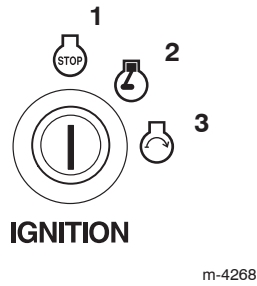

Figure 14
6. Turn the ignition key to Start to energize the starter. When the engine starts, release the key (Fig. 14).
3. Let the engine idle for 60 seconds (Fig. 14).
4. Turn the ignition key to Off (Fig. 14).